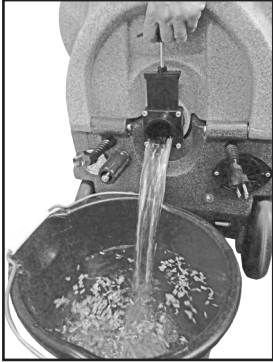

Figure 3
- Drain any remaining water from the recovery tank and dispose of in a sanitary drain. CAUTION: Use separate buckets to drain and fill the tank. Even the smallest debris can cause issues (Figure 3).